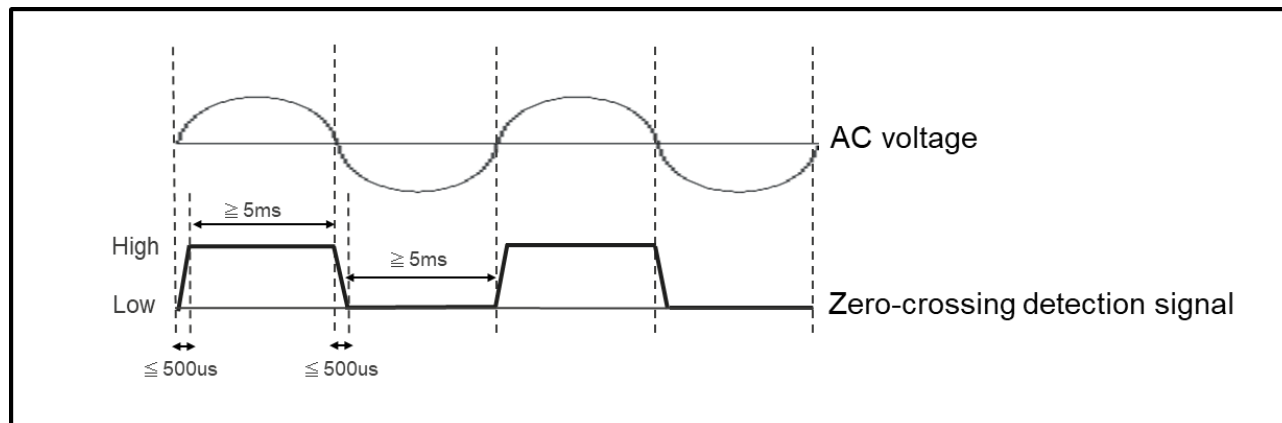

Figure 3-5 The zero-cross detection signal
- Design the zero-cross detection circuit to be the zero-cross detection signal shown in Figure 3-5.